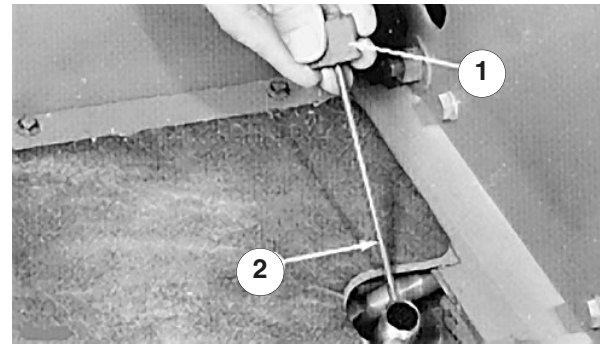

Figure 7
2. Unscrew the dipstick cap (Fig. 7) from the filler neck and wipe it with a clean cloth. Screw the dipstick cap finger-tight onto the filler neck, then unscrew the dipstick and check the oil level. If the level is not within ½ in. (13 mm) from the groove in the dipstick (Fig. 7), add enough oil to raise the level to the groove mark. Do not overfill by more than ½ in. (13 mm) above the groove.